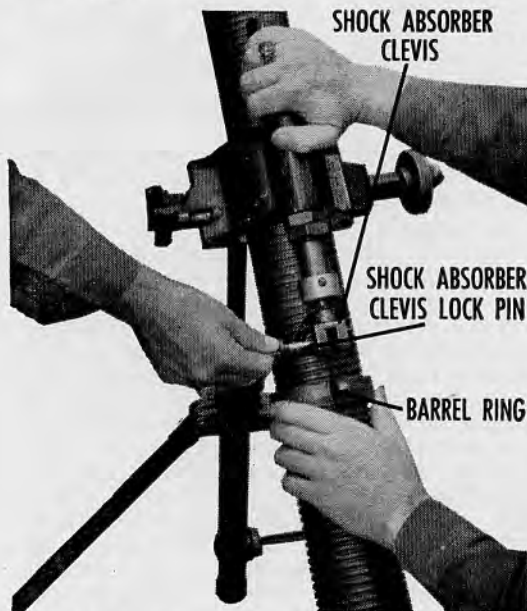

Fig. 30.5 Connection of mount and mortar.
5. The barrel is attached to the bipod by locking the shock absorber clevis to the mount attachment ring after inserting the barrel into the yoke assembly. (Fig. 30.5).